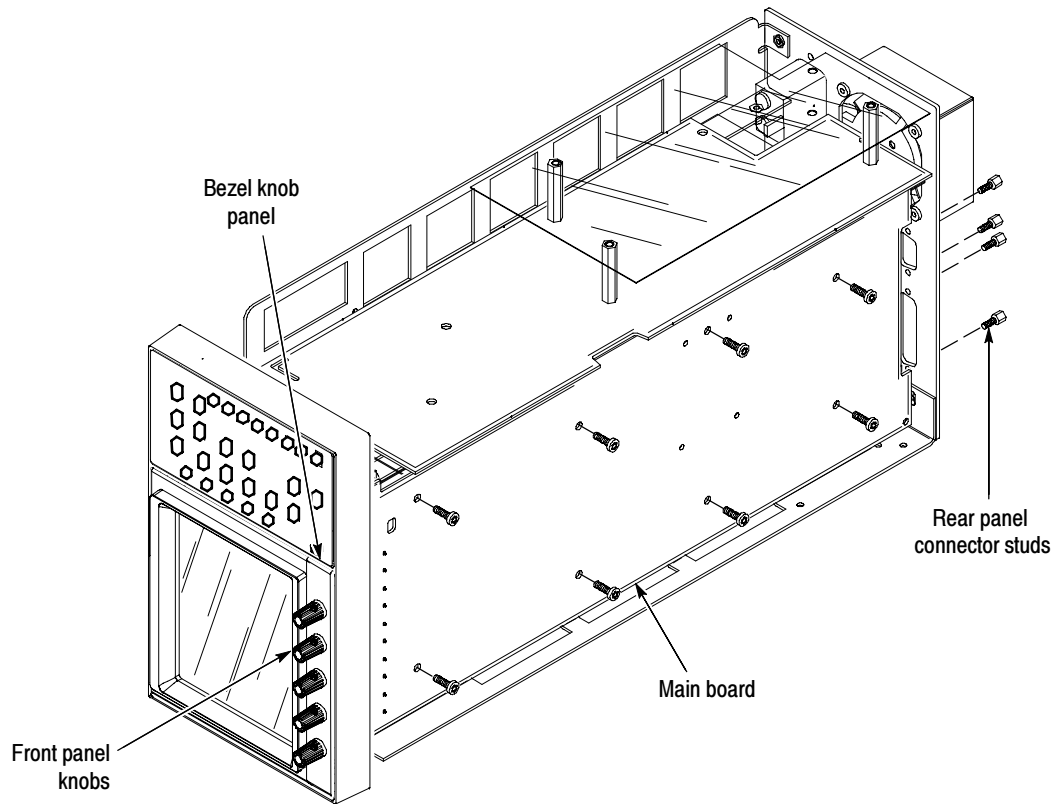

**Figure 1: Removing the XROM board**
2. Unplug the connectors on J1 and J3 of the XROM board. See Figure 1 for board location.